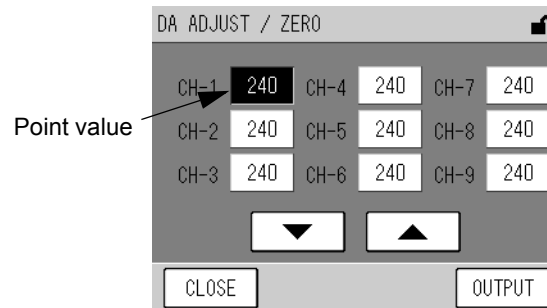

Fig. 56 DA ADJUST/ ZERO screen
- [ZERO]: Displays the DA ADJUST/ ZERO screen for zero calibration of analog output (Fig. 56 on page 45).